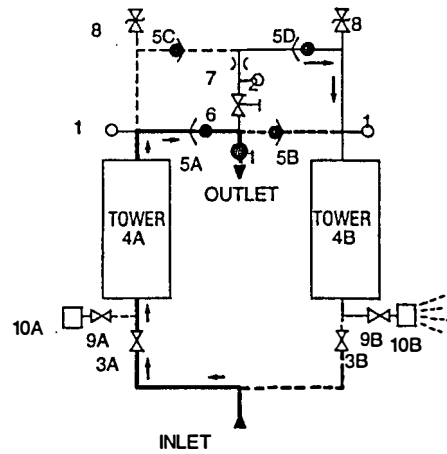

FIGURE 1A
1.2.1 Dryer (Refer to Figure 1A.)